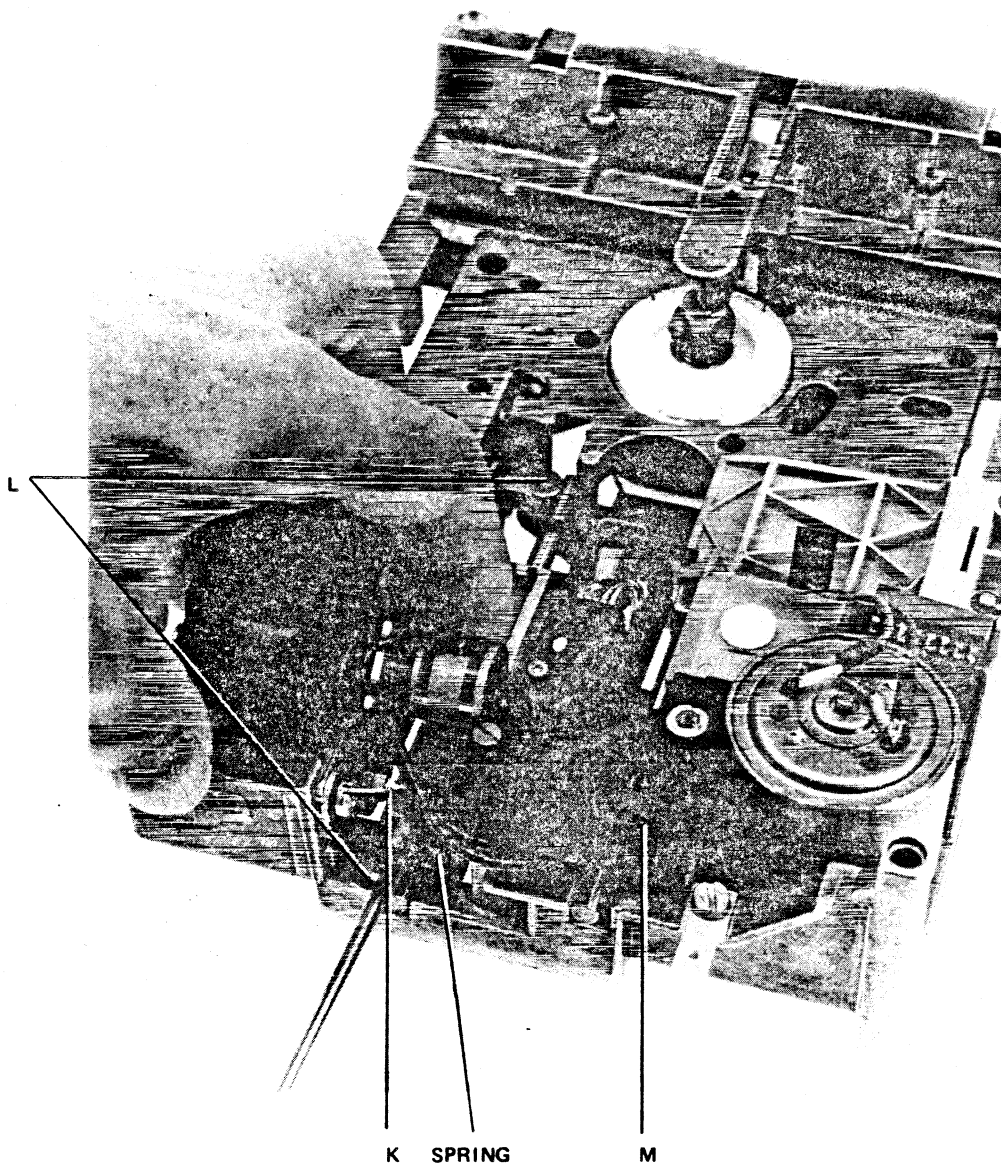

Figure 7.7 BAND REMOVAL
- d) Place the blade of a screwdriver between the steel band and the carriage (figure 7.7) and push forward to release the band.
- g) Remove screw ('K' figure 7.7). Note that the spring washers are dished to provide spring tension during head alignment.
- f) Replace spring (figure 7.7) on its peg.
- b) Remove the 2 countersunk screws (L of figure 7.7) with a 2.5 mm Allen key but merely slacken screw 'M', taking care not to damage the MFDF wiring loom.